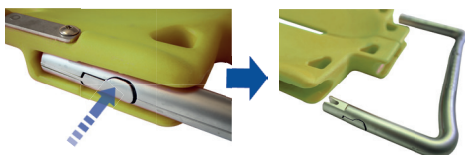

Fig. 1
1. To position the ultraCOMBI-STRETCHER II under the patient without moving it, open one of the metal brackets. To do this, press the metal button on the side of the out the metal bracket (Fig. 1).